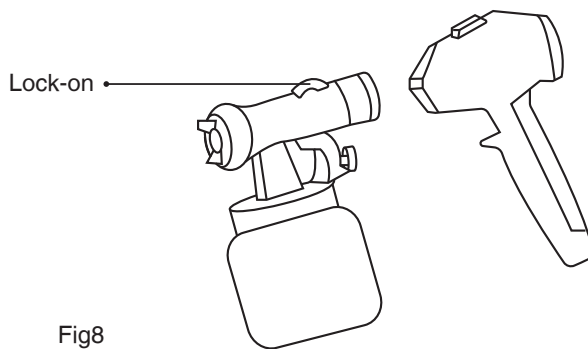

Fig8
- 2) Divide the spray gun. Press the unlock button (Fig. 8) downwards.